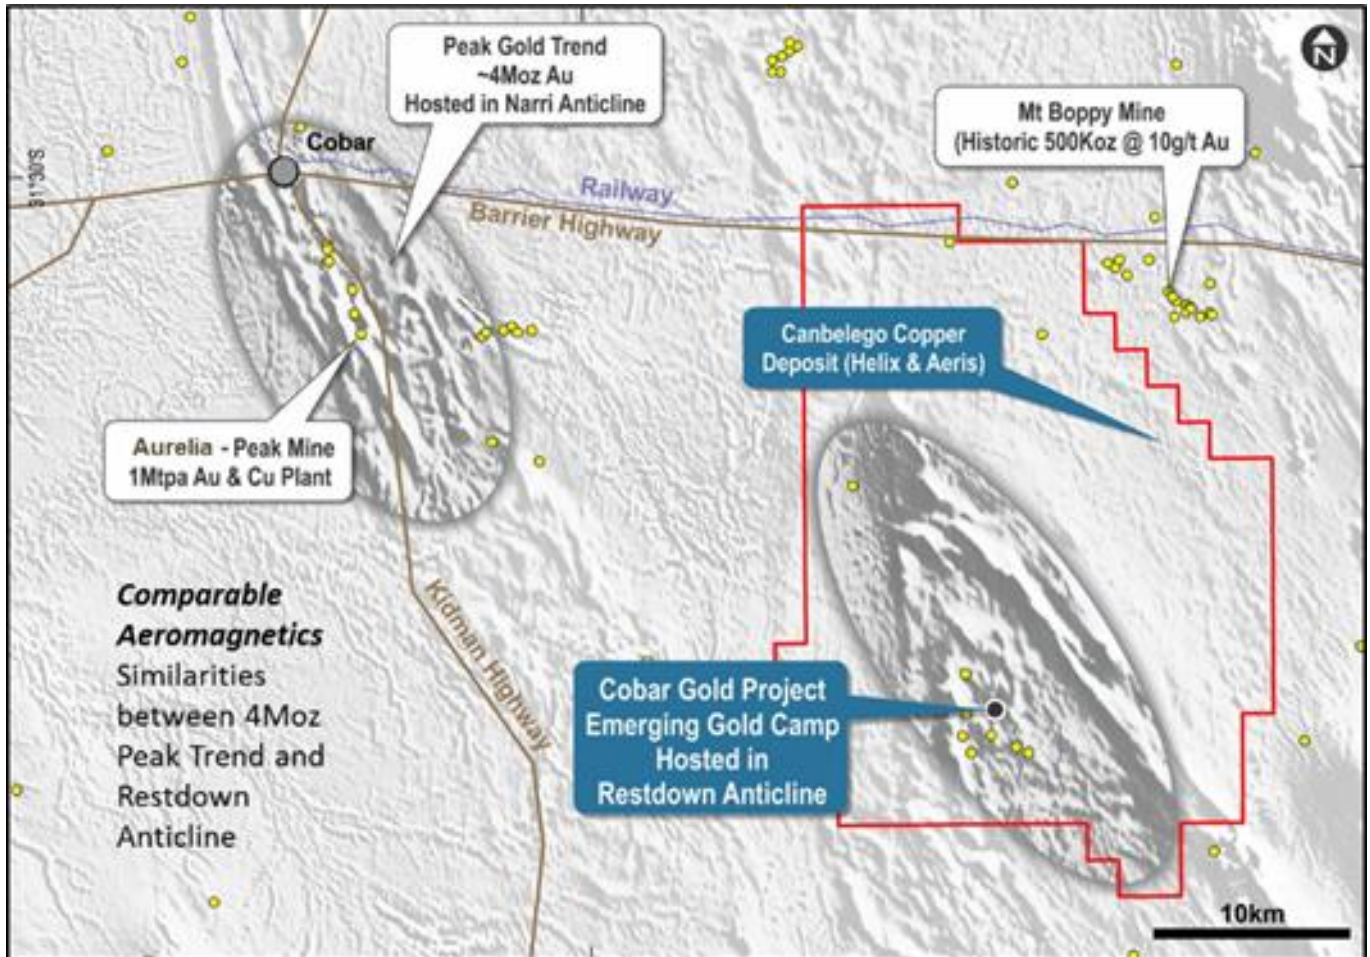

Figure 1 – Cobar Gold Project Regional Location Plan
A reverse circulation (RC) drilling program at Helix's 100% owned Cobar Gold Project was completed in the second half of 2020. The program was implemented in 2 phases as presented in Table 1. This phase of the program was "scout-style" drilling, the first undertaken at the 7 new prospects within the area known as the Battery Tank Goldfield (refer figure 1).